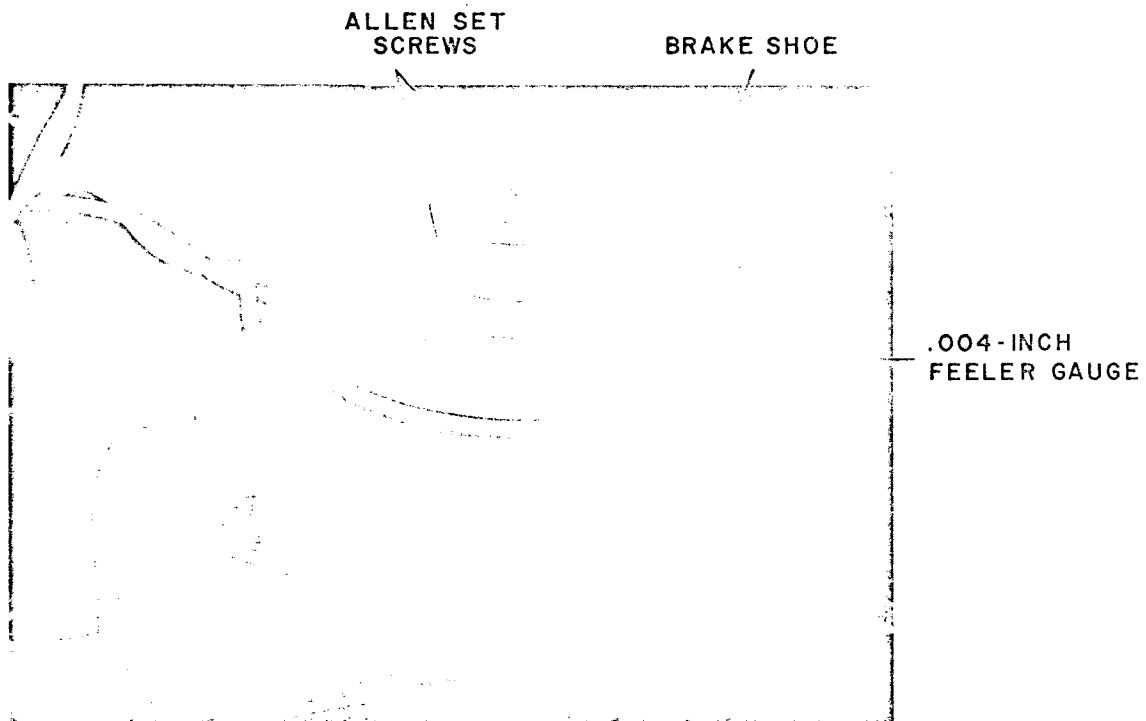

Figure 4-13 TU55 Brake Adjustment
4.5.1.2 Adjustment Procedure - The brake shoes are located on the motor shafts as shown in Figure 4-13. The brake shoes follow the rotation of the motor shaft (hubs).